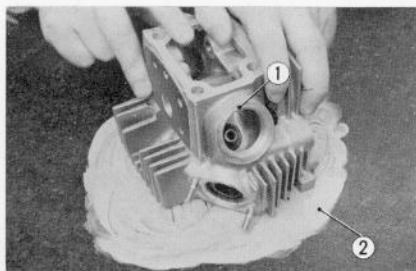

Fig. 3.18 Checking cylinder head warpage
To inspect for warpage of the cylinder head ①, apply a thin coat of bluing or red lead ② on a surface plate and work the mating surface of the cylinder head on the surface plate; the warpage can be determined by the transfer of the bluing on to the cylinder head. (Fig. 3.18)